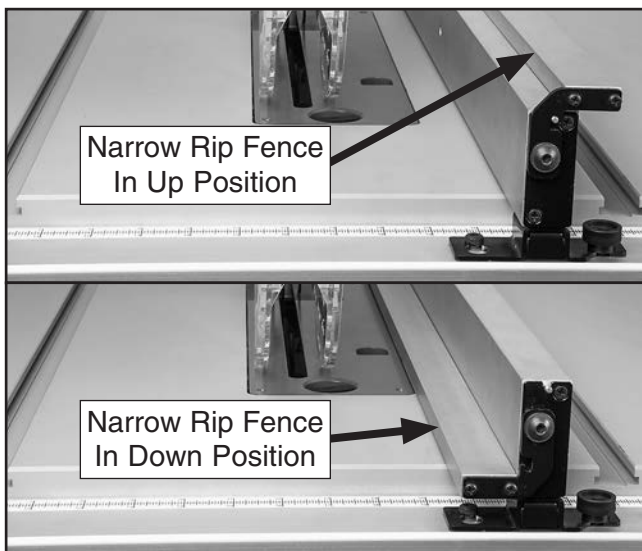

Figure 40. Narrow rip fence positions.
5. For typical rip cuts, place narrow rip fence attachment in up position; for rip cuts less than 1" wide, place the narrow rip fence in the down position (see **Figure 40**).